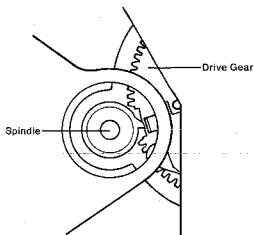

Figure 1
1. Turn the turntable spindle clockwise, until the non-serrate section of the drive gear is visible and positioned as pictured in the illustration (Figure 1).